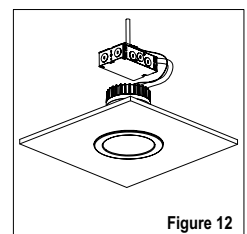

Figure 12
9. Restore power at the source. The installation is complete. (See Fig. 12)